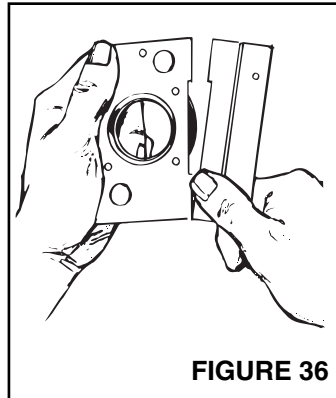

FIGURE 36
2. Refer to Figure 36. Break off nail plate at scored line.